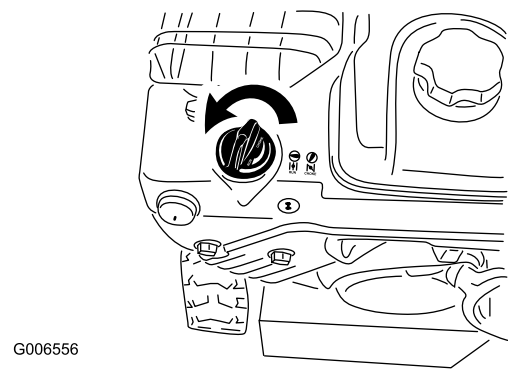

Figure 27
5. Rotate the choke to the Choke position (Figure 27).